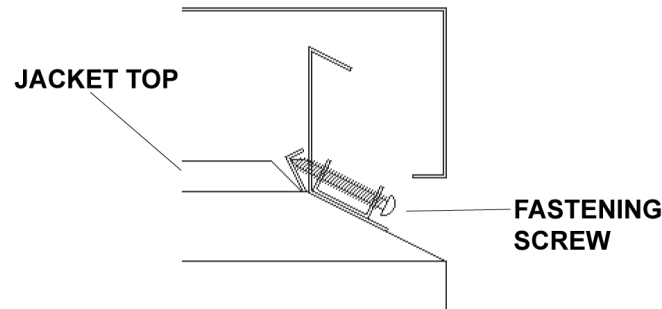

Figure 5. Outdoor Top Installation for Models 0514–0824
2. Tighten the four (4) screws until they come in contact with the unit jacket top then evenly tighten all four (4) screws to secure to unit. See **Figure 5**.